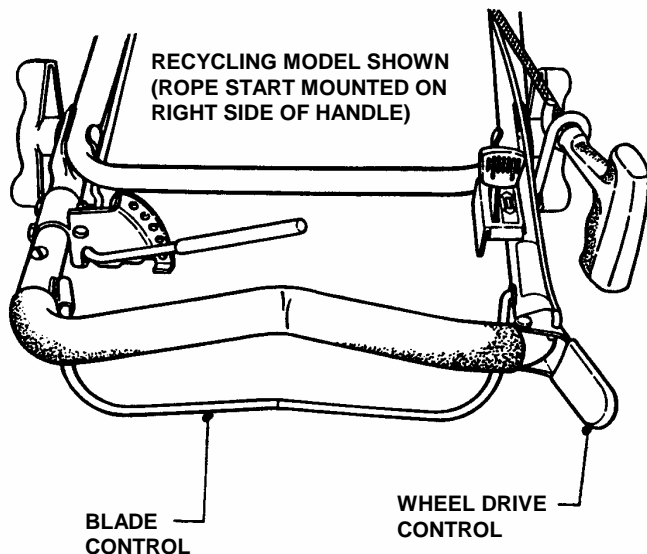

FIGURE 2.1
2.1.2. Check blade control and wheel drive control to insure they work freely. See Figure 2.1.